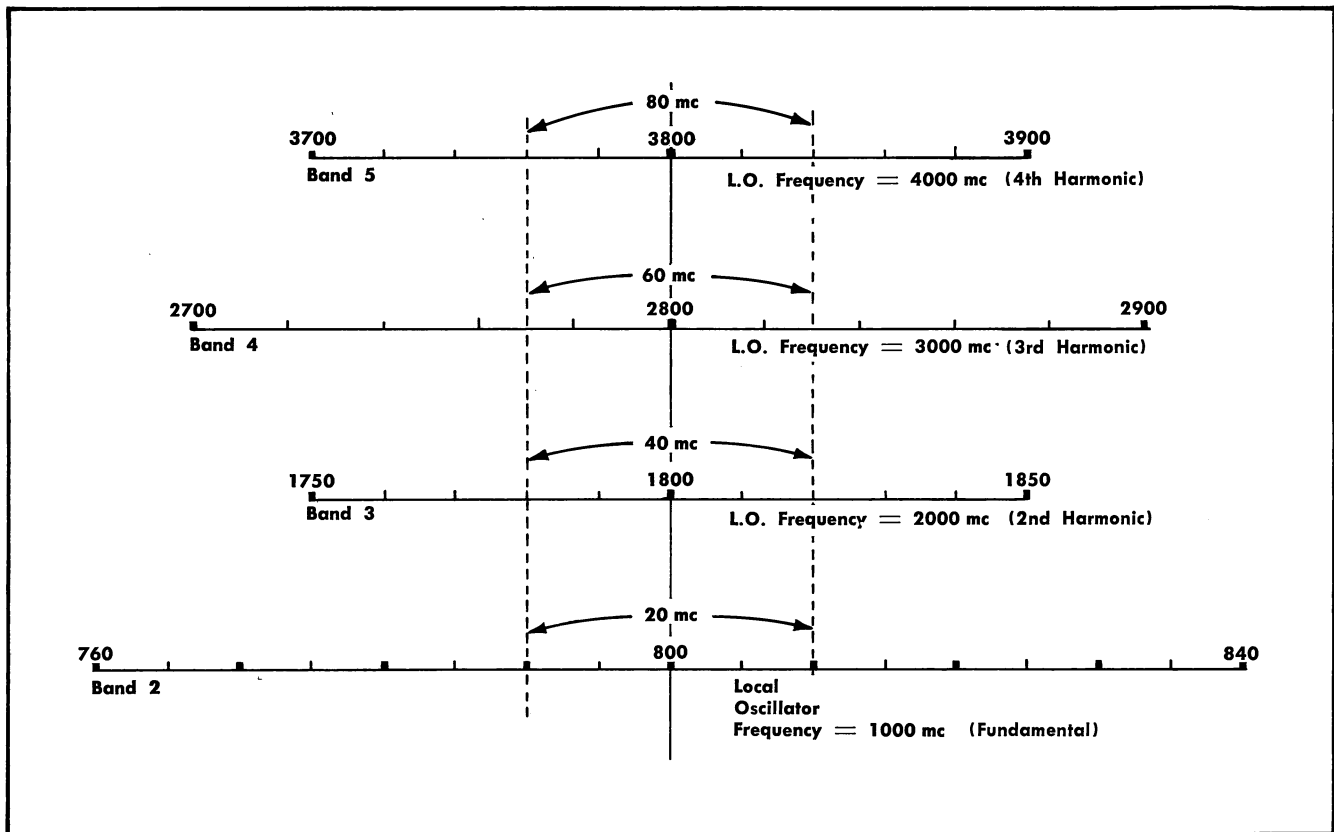

Fig. 2-3. Illustration of relationship between FREQUENCY dial reading, local oscillator frequency and applied signal frequency on bands 2-5 of a Model L-20.
3. To determine if the displayed signal is a harmonic, move the FREQUENCY dial so that the displayed signal is on the first graticule line on the left-hand side of the screen and note the reading of the FREQUENCY dial. Set the FREQUENCY dial to a setting exactly 50 megacycles above the noted setting. With the marker signal (FREQUENCY DIFF-MC control) check to see if the displayed signal moved 50 mc on the screen. If the signal moved 50 mc on the screen, the display is correct. If the signal moved more than 50 mc on the screen, then a lower dial frequency must be selected. If the signal moved less than 50 mc, then a higher dial frequency must be selected. See Fig. 2-3.